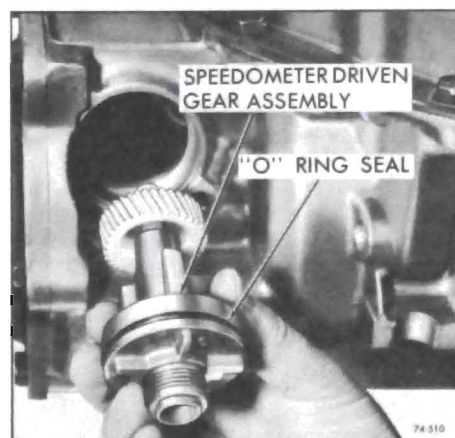

Figure 76-510
4. Withdraw speedometer driven gear assembly from case. See Figure 76-510.